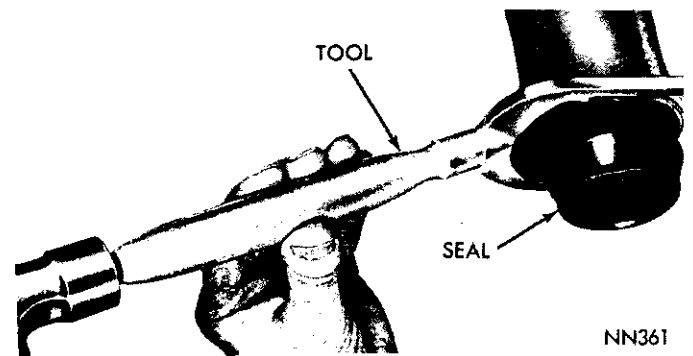

Fig. 13—Removing Extension Housing Yoke Seal
(3) Remove extension housing yoke seal (Fig. 13) with Tool C-3985.